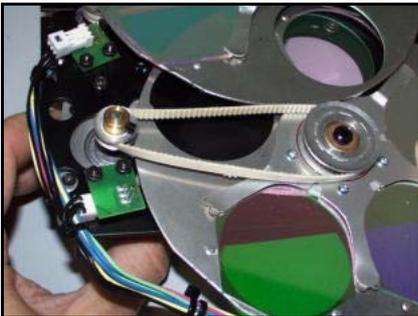

Fig. 24 Release belt tension
- 2 Release belt tension and slip the belt off the motor gear. (Fig. 24)